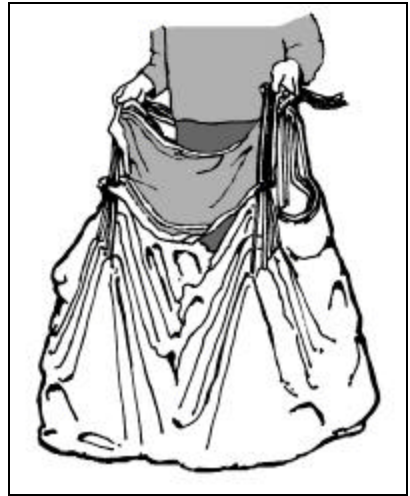

Figure 10.
Step 6.) Anchor the harness /container system and apply tension to the lines. Step between the right and left line groups and grasp the right line groups in the right hand and the left line groups in the left hand. Push the slider toward the canopy, and walk forward. Pick up the canopy by the suspension lines and allow it to hang downward (See Figure 10.) Push the slider up as far as it will go until each slider grommet comes to its respective slider stop. **NOTE:** The slider stops mounted on the "C" flares are somewhat further from the connector links than the slider stops mounted on the "A" flares. This is normal.